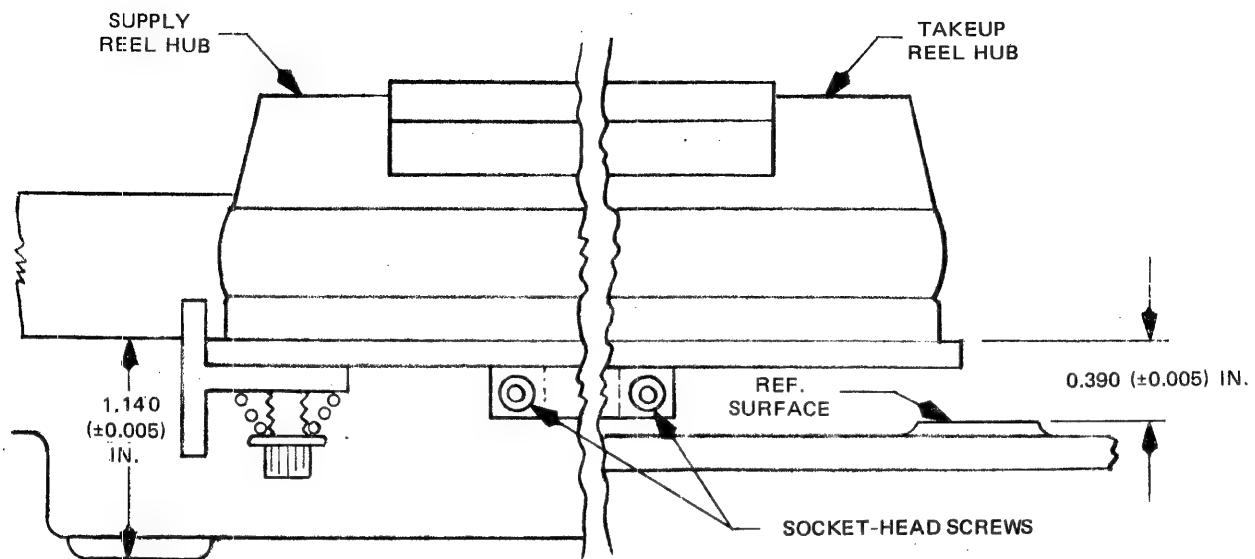

Figure 5-3. Reel Hub, Showing Adjustment Dimension
5-18. REEL HUB. Replace and adjust the supply or takeup reel hub as follows (Figure 5-3):
- b. Install replacement hub on shaft to obtain dimension shown in Figure 5-3, and tighten socket-head screws.